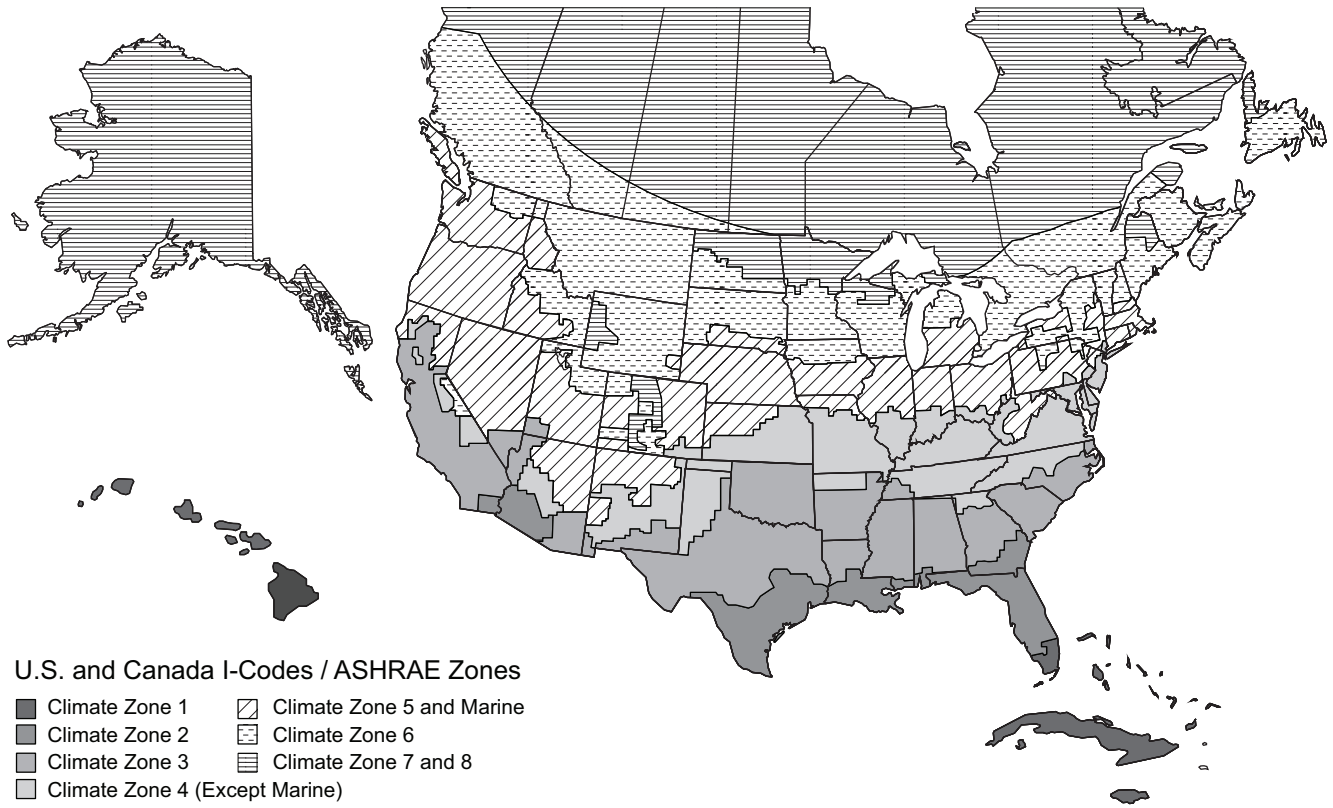

Fig. 70 – U.S. and Canada Climate Zones
- a. See Fig. 70 for map of U.S. and Canada climate zones.